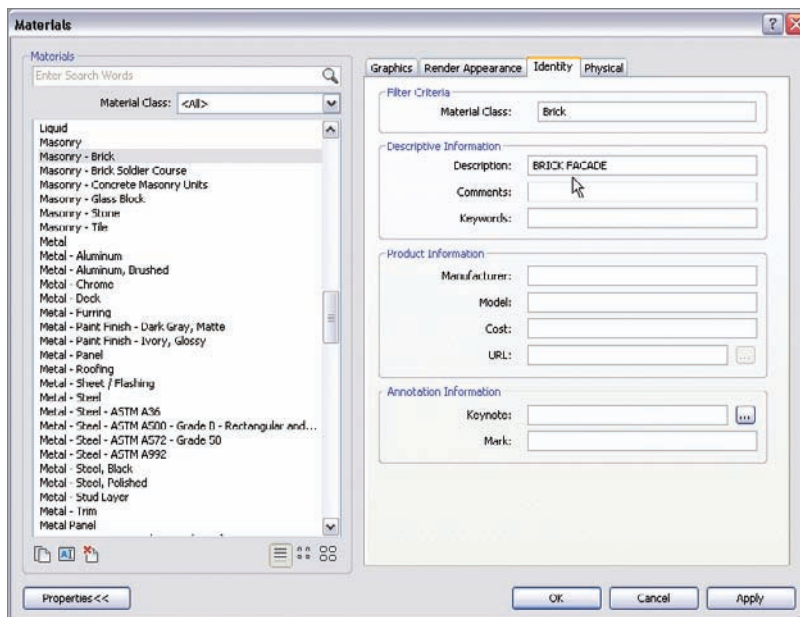

FIGURE 12.52 Changing the Description to BRICK FACADE in the Identity tab
2. Select Masonry - Brick in the list to the left, as shown in Figure 12.52.
3. On the right side of the dialog, go to the Identity tab, as shown in Figure 12.52.